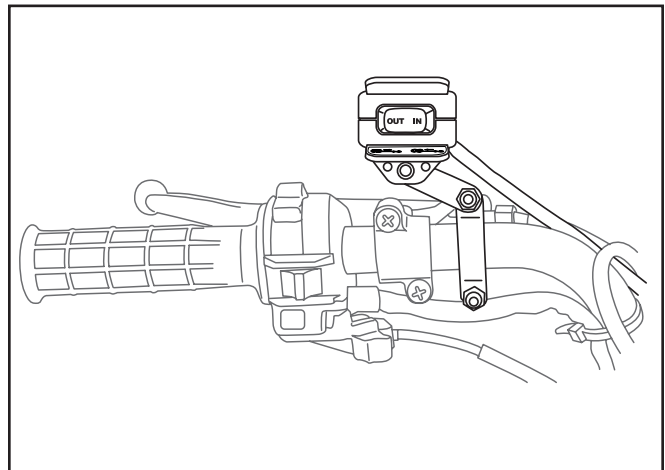

Figure 10 Switch Mounting Location
3. Position the switch such that it can be easily reached without interfering with other accessories on the handlebar. An example of a good location is just above and inboard of the light switch as shown in Figure 10. Tighten all the bolts and nuts securely such that the switch is firmly held into position.